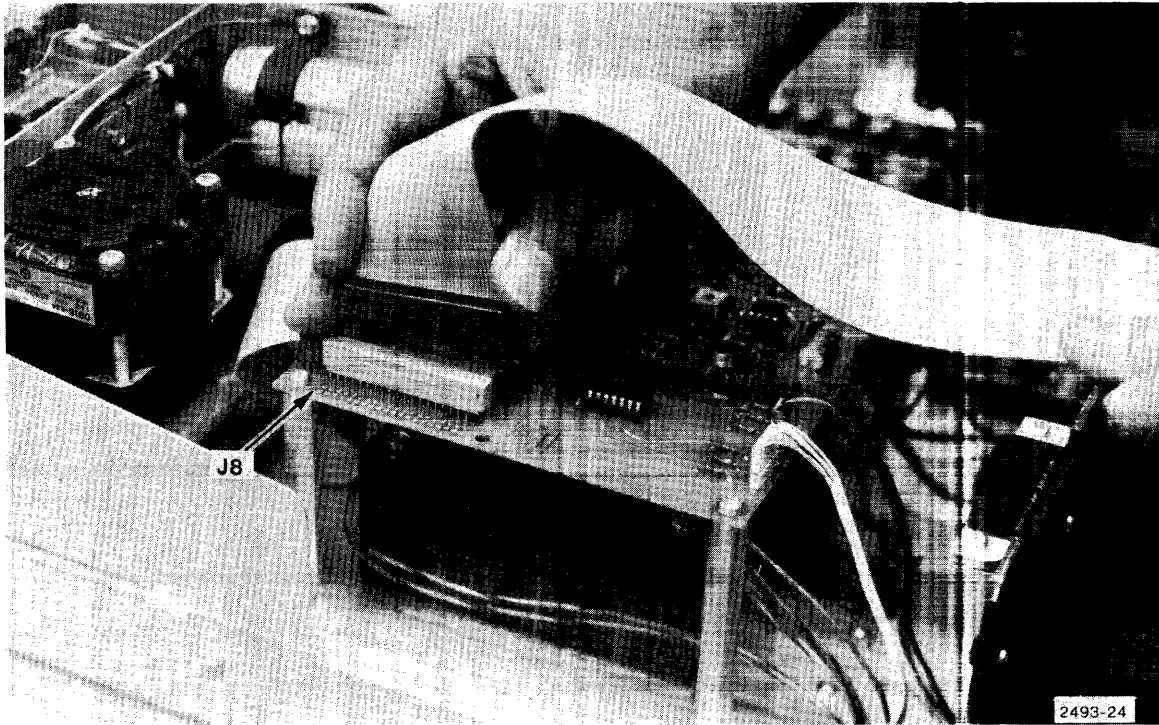

Figure 5-2. Connecting ribbon cable to J-8.
- f. Install ribbon cable to connector J-8 on the power supply board (Figure 5-2). Align red stripe with pin 1.